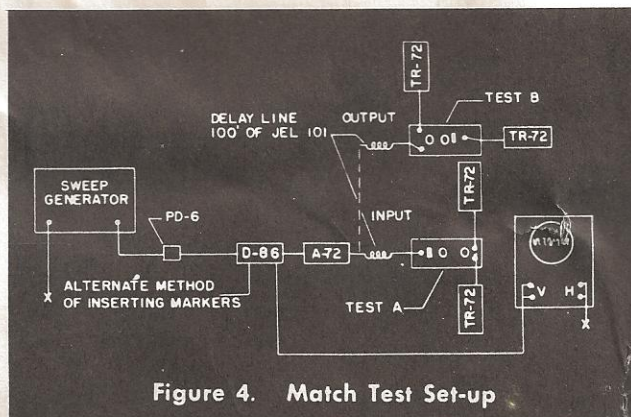

Figure 4. Match Test Set-up
## Alignment—(Refer to figures 4 through 7)
1. Set up test equipment for test A (Figure 4).
9. Set up test equipment for Test B (Figure 4).